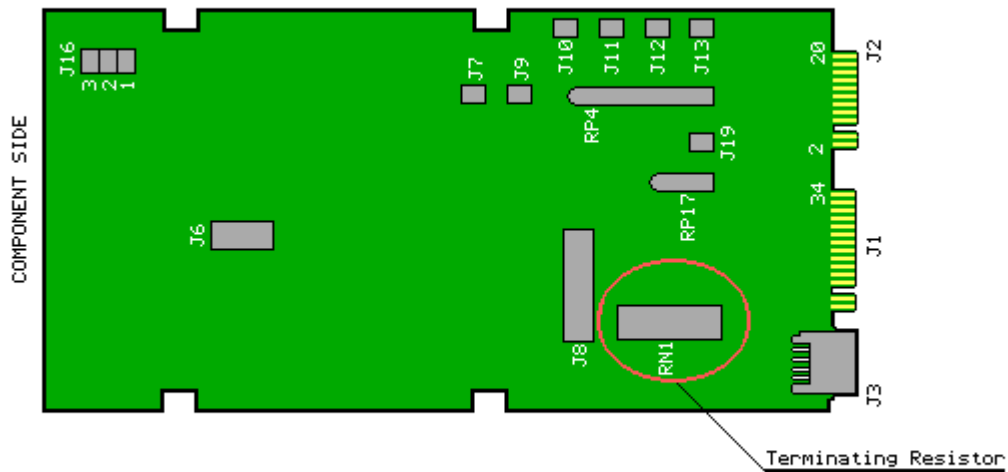

Figure 8-110. Terminating Resistors
1. Locate and remove the terminating resistor from the fixed disk drive using needlenosed pliers (Figure 8-110).